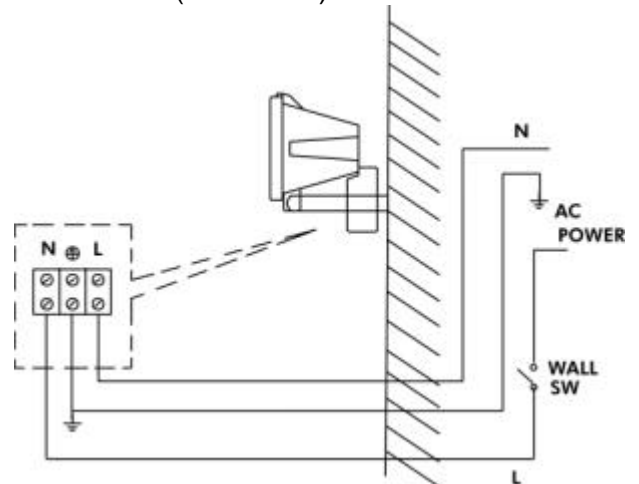

FIGURE 1
- (1) Select a location for the unit either on a wall or eaves at a height of 1.8~2M above the ground to prevent tampering.
- (2) Install a wall switch adjacent to power source. (FIGURE 1)